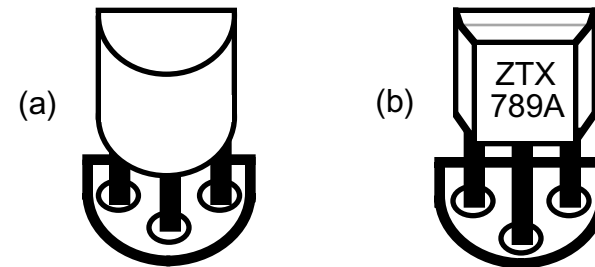

Figure 2
- Using a magnifying glass if necessary, identify the three different types of TO-92 package transistors (small black body, three leads). They will look like one of the two types shown in Figure 2.